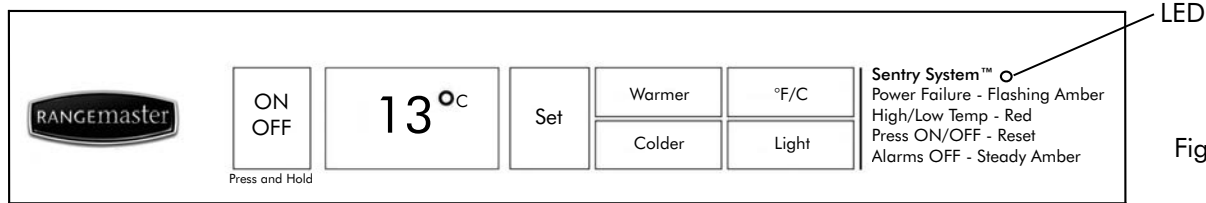

Figure 3
- 1) If Sentry System™ LED is flashing amber (see Figure 3) the appliance is on. Simply press and release "ON/OFF" button to stop the flashing LED.
- 2) If the interior light is working but Sentry System™ display is blank push and hold "ON/OFF" button for five (5) seconds to start the appliance.